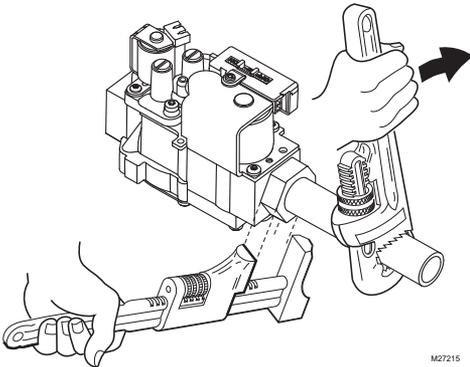

Fig. 3. Proper use of wrench on gas control.
6. Connect the pipe to the control inlet and outlet. Use a wrench on the square end or a socket on the hex end of the control. See Fig. 3.